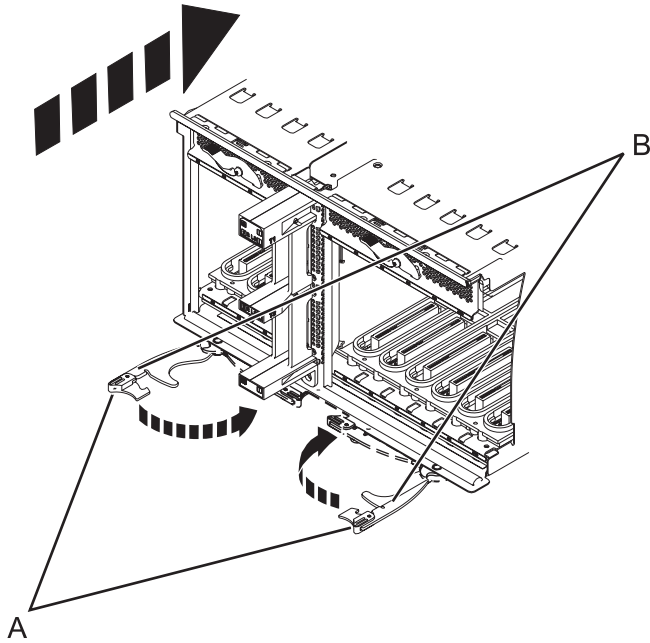

Figure 48. Install the I/O system board on a rack-mounted model
9. Insert the I/O system board firmly into the server, as shown in Figure 48.
10. Secure the I/O system board with the locking tabs **(A)**, as shown in Figure 48.